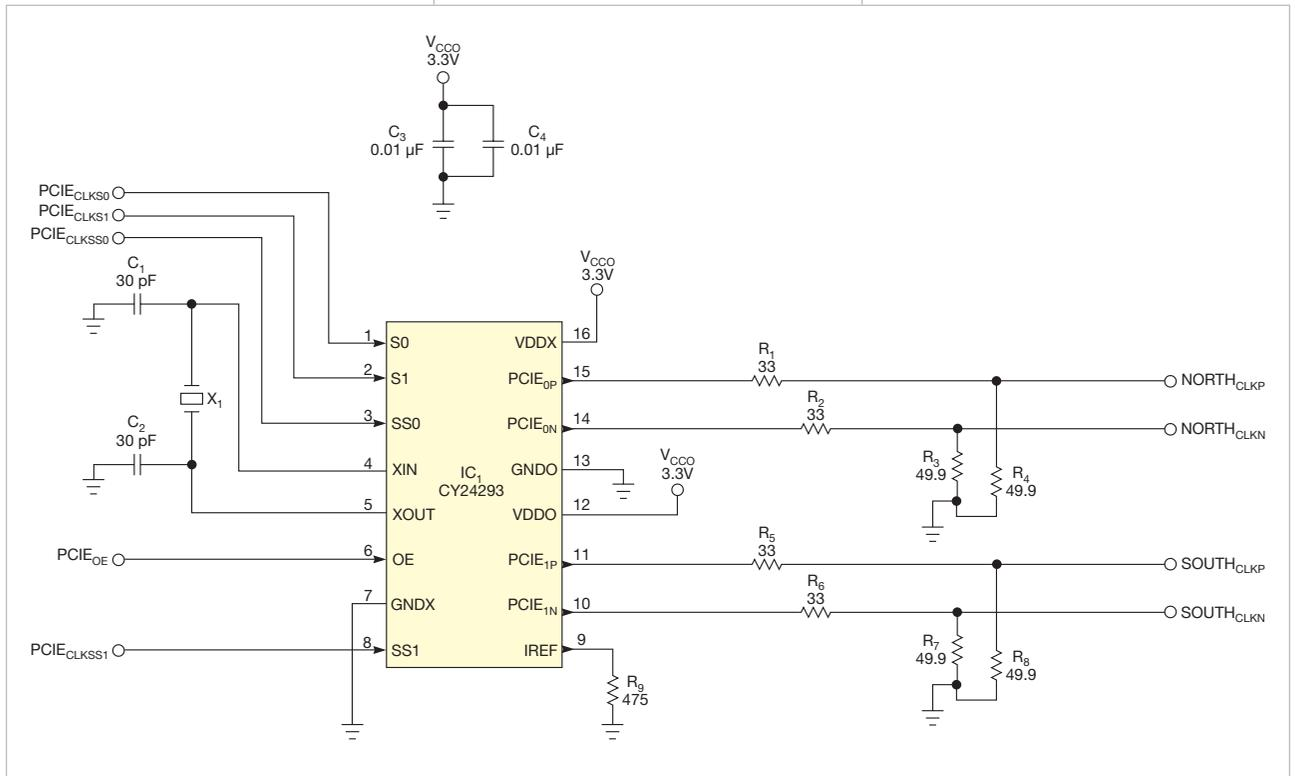

Figure 1 This circuit feeds a clock generator into an FPGA to make an asynchronous VPX clock.
asynchronous clocking, you use a clock chip that you carefully match to a particular model of oscillator crystal (Figure 1). The clock-chip IC has requirements
▶ You can use a photoelectric FET as a variable resistor or a potentiometer in combination with a fixed resistor. The H11F3M photoelectric FET has an isolation voltage of 7.5 kV, enabling you to safely control high-voltage parameters. The nonlinear-transfer characteristics of these devices are problematic, however (**Figure 1**). To correct the nonlinearity, using a simple feedback mechanism as a potentiometer yields a linear response (**Figure 2**). This circuit uses two photoelectric FETs—one for feedback and the other for applications requiring an isolated potentiometer. You connect the inputs of the two photoelectric FETs in series to ensure the same amount of current for the input LEDs.